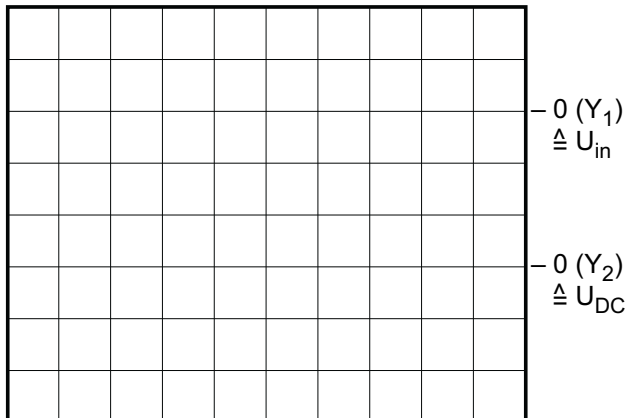

Fig. 1.3.2.4
- Enter the curve shapes of the two voltages into the diagram (Fig. 1.3.2.4).